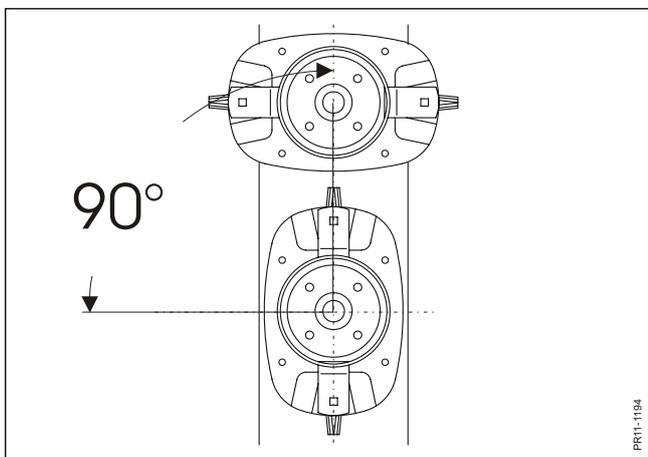

Fig. 5-14
- Fig. 5-14** If discs have been dismantled they must be mounted again staggered 90° in relation to each other.